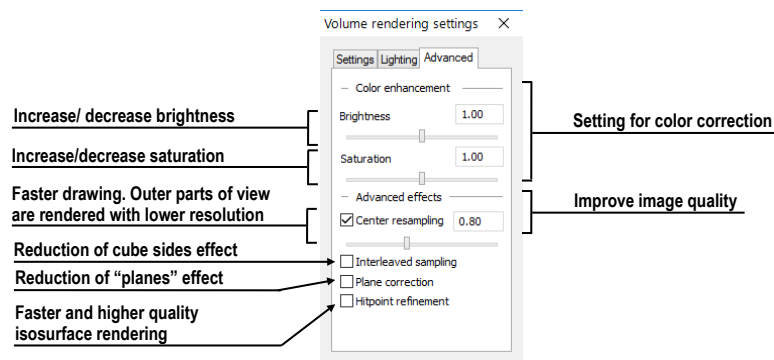

Figure 333 – Volume rendering settings, the third tab
- Settings for color corrections and advanced ray casting settings on the third tab (see Figure 333)